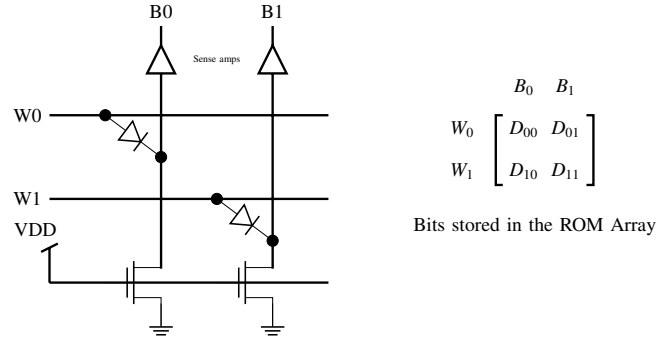

Fig. 3.30:  $2 \times 2$  ROM array
48. A  $2 \times 2$  ROM array is built with the help of diodes as shown in the circuit below in Fig. 3.30. Here  $W_0$  and  $W_1$  are signals that select the word lines and  $B_0$  and  $B_1$  are signals that are output of the sense amps based on the stored data corresponding to the bit lines during the read operation. During the read operation, the selected